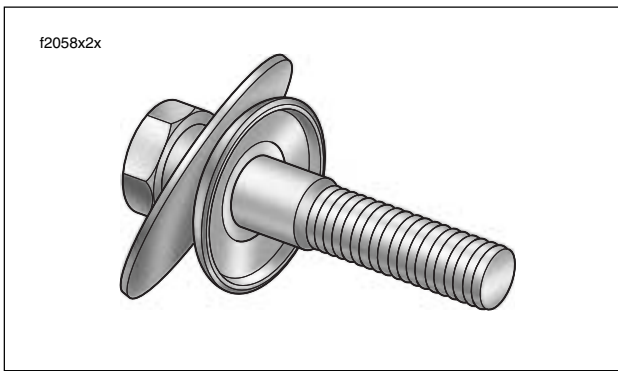

Figure 2-124. Remove Bolt, Large Washer and Lower Cup Washer (Right Side)
6. Moving to bottom of upper fork bracket, remove bolt, large flat washer and cup washer. See Figure 2-124.
3. Install large flat washer and cup washer on bolt. See Figure 2-124. Insert bolt into bushing fitting concave side of cup washer over collar of bushing.